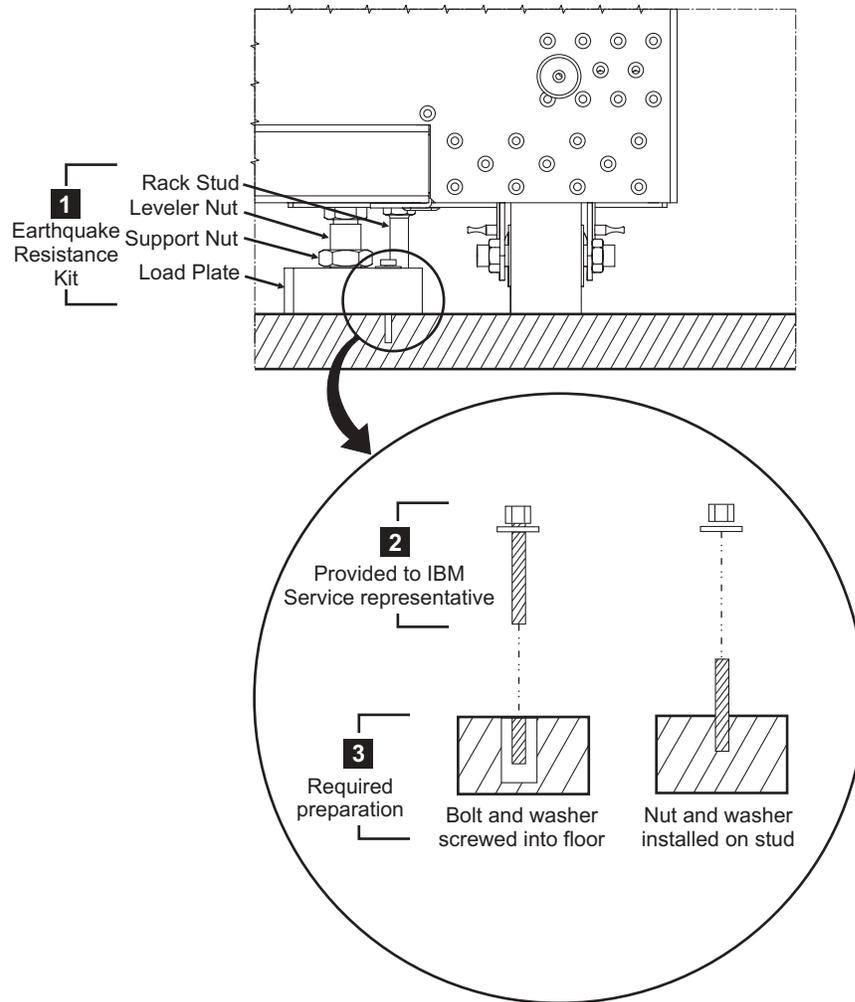

Figure 28. Earthquake Resistance Kit, as installed on a nonraised floor. The detail shows two of the most common fasteners that you could use.
Figure 28 provides an illustration of the Earthquake Resistance Kit ( **1** in the figure) after the IBM service representative installs it on the nonraised floor. Before the IBM service representative installs the kit, you must prepare the area shown as **3** in the figure.
Figure 28 on page 112 shows illustrations of the example fastener sets.
3. When the IBM service representative arrives to install the Earthquake Resistance Kit, provide the other fastener parts ( 2 in Figure 28 on page 112) so that the representative can use these parts secure the load plates onto the floor.